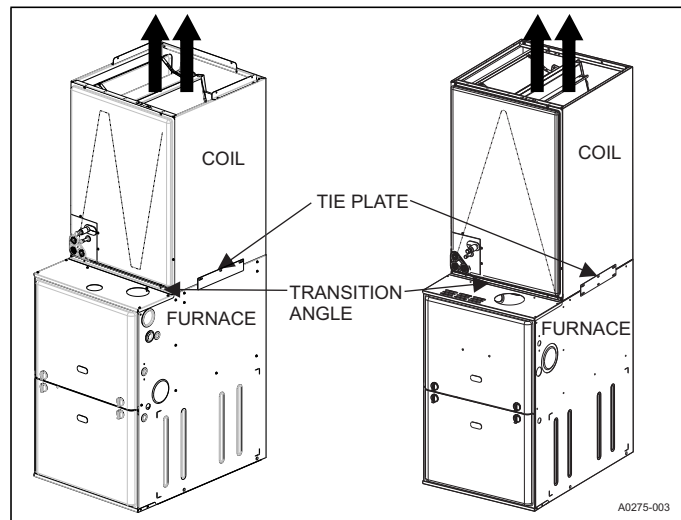

FIGURE 5: Vertical Upflow Applications with Furnaces
1. Position the coil cabinet against the furnace or modular air handler opening as shown in Figure 5, 6, 7, or 8.